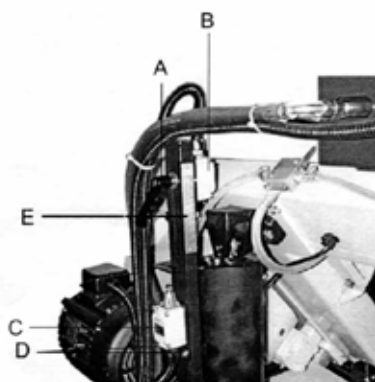
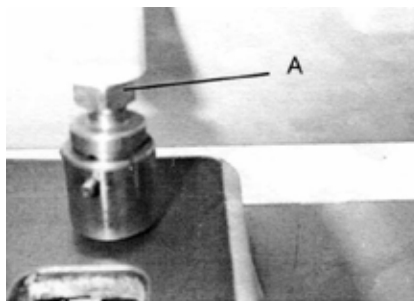

Figure 7. Bow Height Settings
Figure 8. Down-Bow Dampener Adjustment
The user presets the height at which the bow stops when it raises automatically. Bow height depends upon the piece to be cut. See Figure 7. The limit switch is lowered or raised by loosening a locking knob (**A**). Tighten the locking knob when the limit switch **B** is properly adjusted. The scale (**E**) allows the user to position the bow height from 0 to 13" above the bed. The saw arm will automatically return to the preset level when after the cut.
To produce a better cut, this bandsaw reduces the rate of down-bow when the blade approaches the table. The saw is equipped with a standard (inch) size blade at the factory. Because the width of standard size and metric size blades are slightly different, using a metric-sized blade requires adjusting the dampener by turning the cap screw (Figure 8, **A**) clockwise about 1-1/2 revolution. The limit switch must also be adjusted (Figure 7, **C**). Otherwise, the bow will not automatically raise after completing the cut.
NOTE: If the bow or blade fails to stop, limit switch (Figure 7, **C**) must be raised.
1. Loosen 2 screws (Figure 7, **D**).